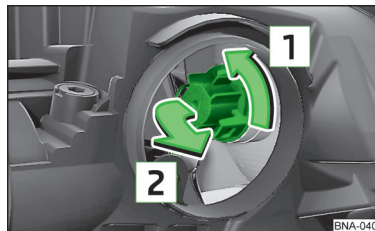

Fig. 108 Changing the front turn signal bulb
- › Turn the pedestal with the light bulb in the direction of arrow **1** and pull out in the direction of arrow **2** » fig. 108.